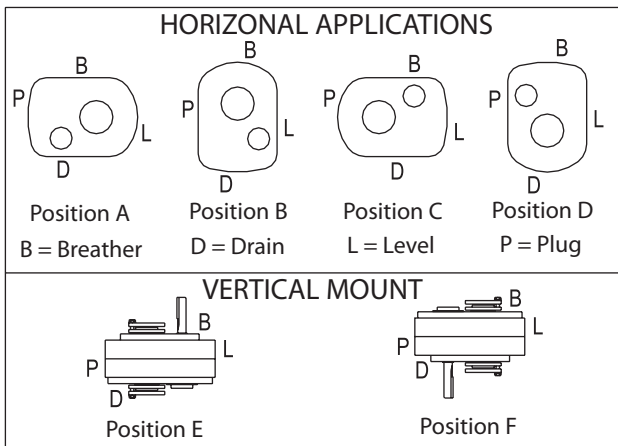

Figure 1 - Mounting Positions
2. Determine the running position of the reducer (see Fig. 1). Note that the reducer is supplied with either 6 plugs; 4 around the sides for horizontal installations and 1 on each face for vertical installations. These plugs must be arranged relative to the running positions as follows:
① Refer to Figure 1 for mounting positions.
② U.S. Measure: 1 quart = 32 fluid ounces = .94646 liters.
Note: If reducer position is to vary from those shown in Figure 1 either more or less oil may be required. Consult Dodge Product Support.